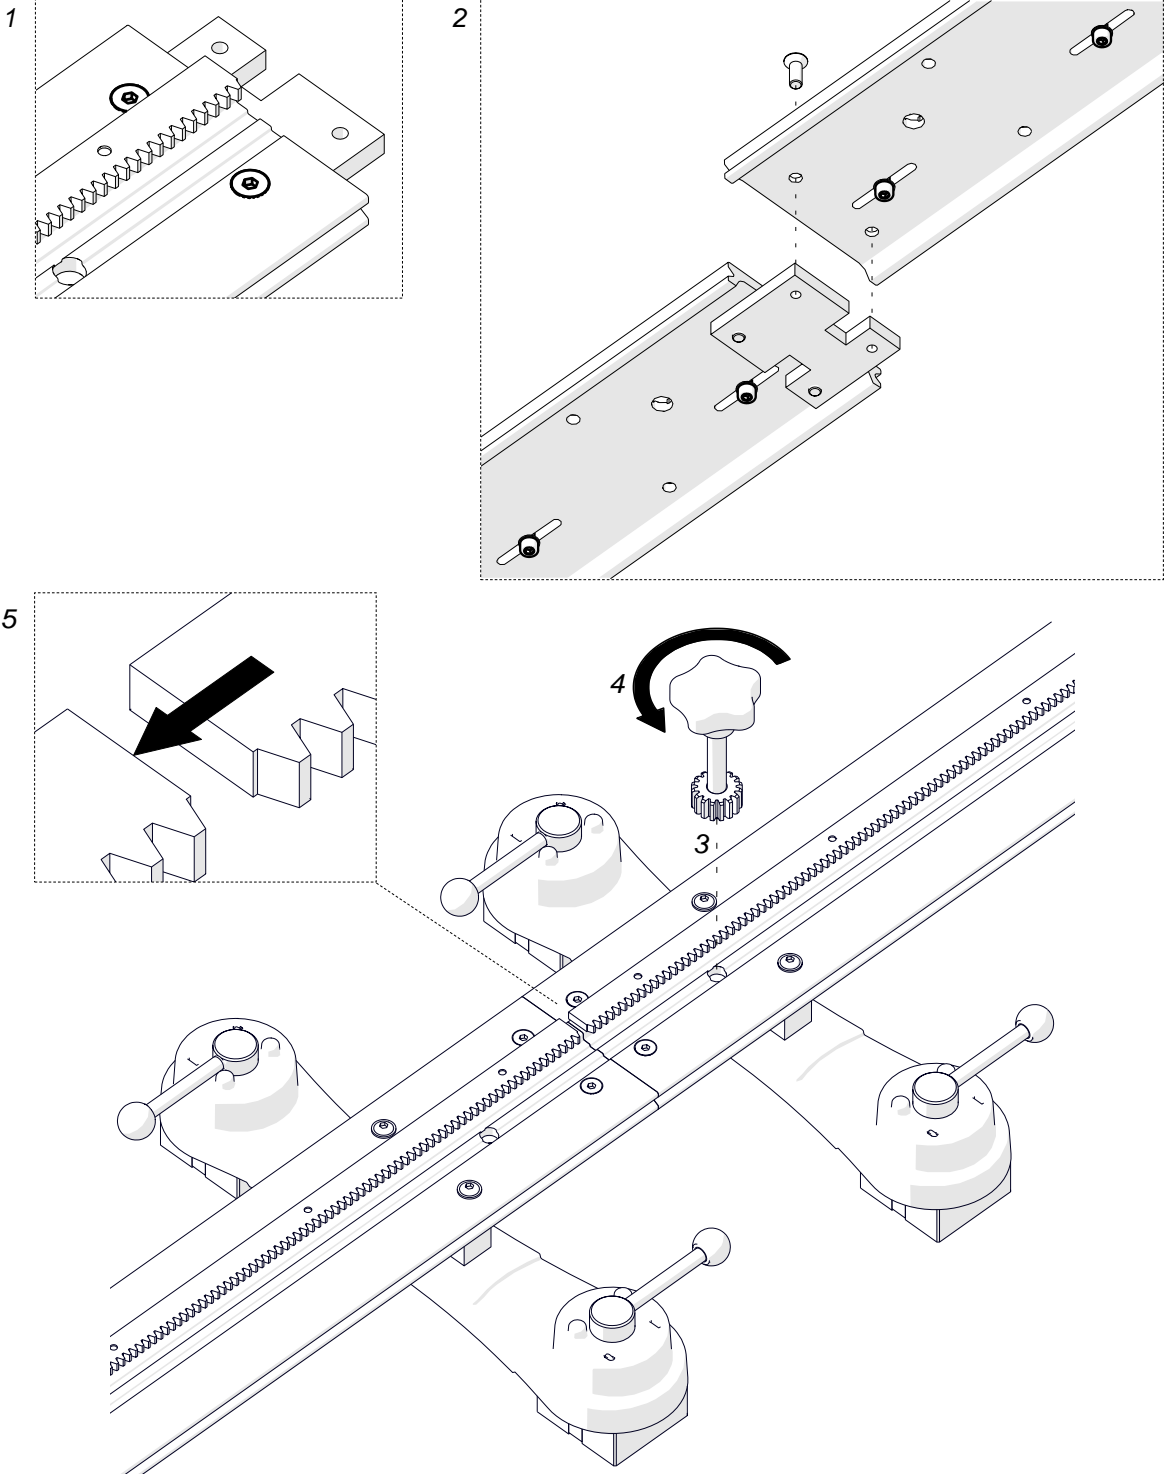

Fig. 2. Removing the gap between the racks of a semi-flexible track
If a semi-flexible rail is put on a curve, before you attach more rails use the 4 mm hex wrench to loosen the screws of the connecting plates (1, Fig. 2) and of the racks (2). Next, attach the rails, clamp them with levers, and then tighten the connecting plates. Put the rack adjustment tool (not included) into the hole (3), and rotate the tool to the left (4) to remove the gap (5) between the racks. Then, tighten the leftmost screw and the rightmost screw of each rack (2).